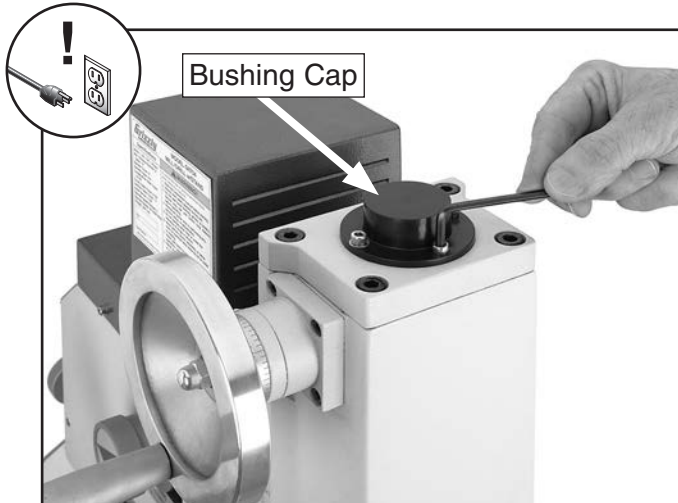

Figure 50. Bushing cap removal.
2. Remove the bushing cap by unthreading the four cap screws that secure it (**Figure 50**).